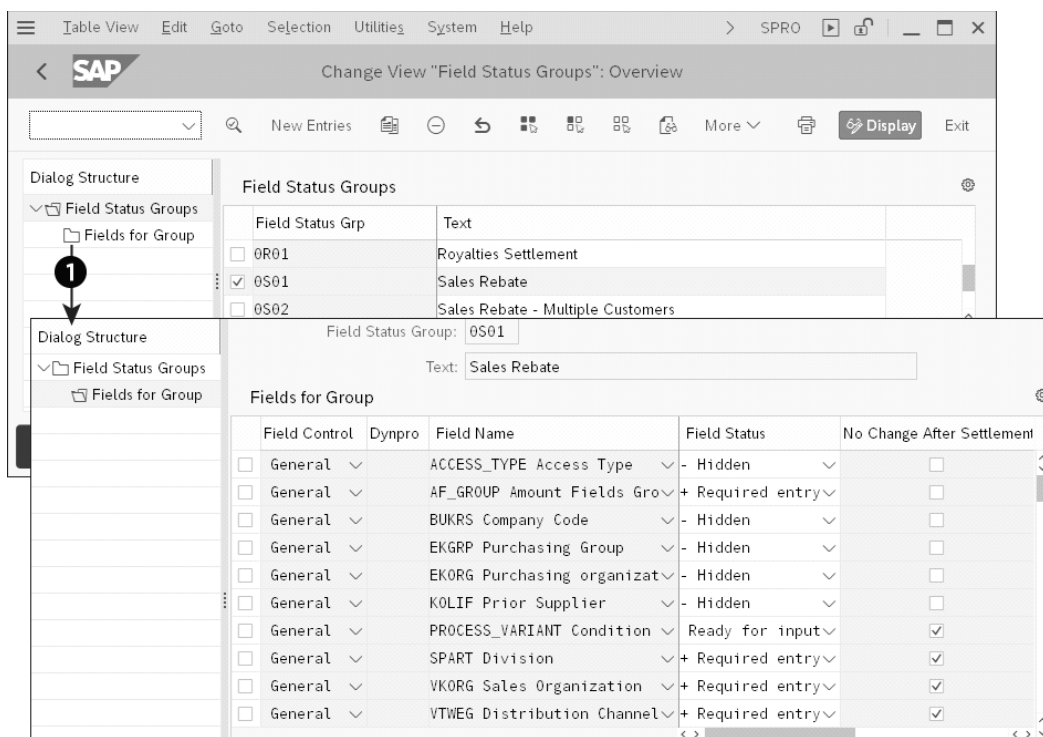

Figure 5.26 Reviewing Field Status Group 0S01 for Usage on Condition Contracts
To display/maintain the field status group to use on condition contracts and process variants, follow the menu path **SAP Customizing Implementation Guide • Logistics – General • Settlement Management • Condition Contract Management • Condition Contract Maintenance • Define and Configure Field Status Groups**. Figure 5.26 shows what you'll see following the menu path and screen commands as specified.
In Figure 5.26, find and select the desired **Field Status Grp** (**0S01** for **Sales Rebate**, as assigned to the condition contract type), and then double-click on **Fields for Group** under the **Dialog Structure** menu on the left side of the screen ❶.